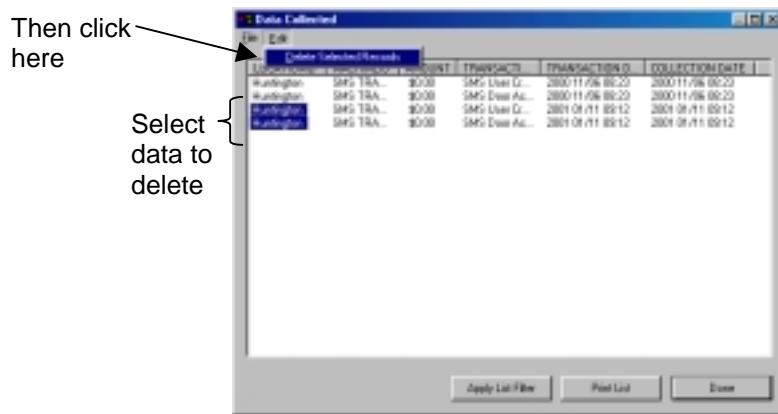

Figure 6.20 Deleting the Collected Data
2. Select the collection records to delete (Figure 6.20).
3. Select Delete Selected Records from the Edit menu (Figure 6.20).